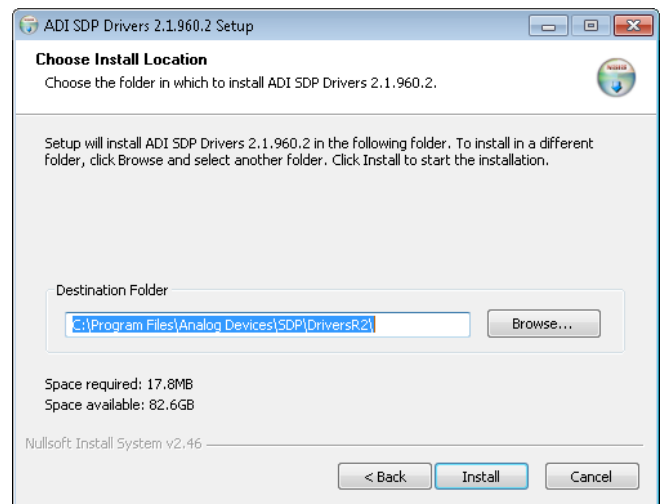

Figure 5. Choose Install Location
2. When the **Choose Install Location** screen appears (see Figure 5), click **Next**. Optionally, you may change the destination folder by clicking **Browse**, selecting a different destination folder, and clicking **Next**.